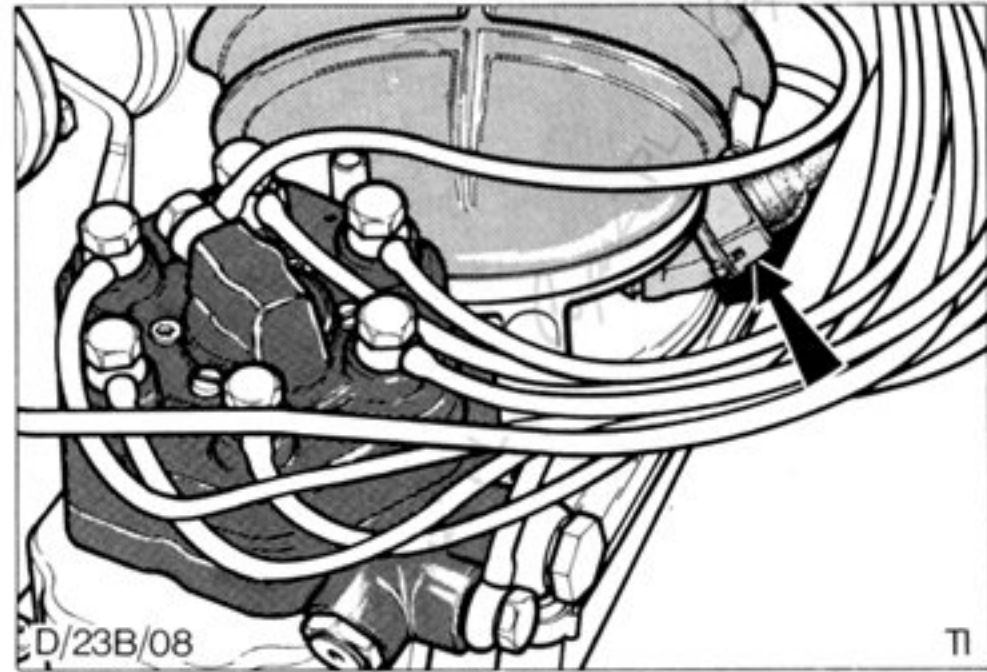

Fig.74. Mixture control unit safety switch plug.
- (a) Mixture control unit safety switch, Fig.74.